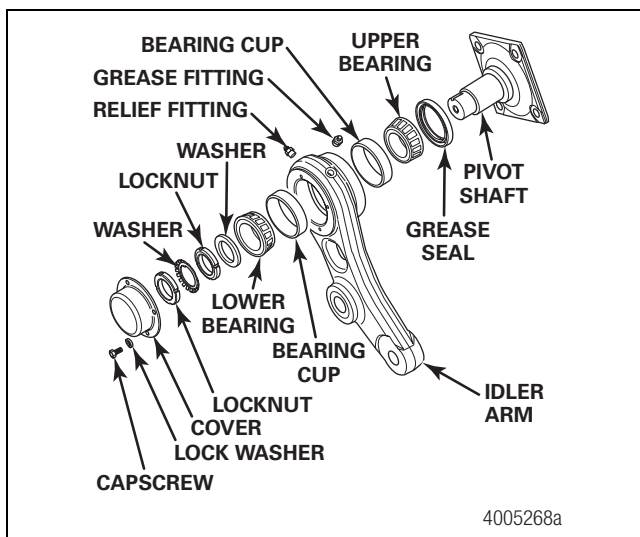

Figure 5.17
1. Remove the capscrews and lock washers from the cover on the idler arm. Remove the cover. Figure 5.17.